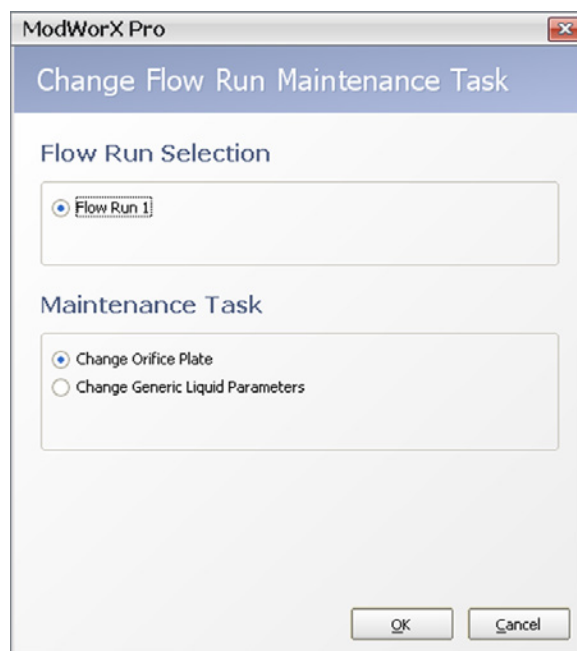

Figure 9.15
1. If Change Generic Liquid Parameters is not displayed in the Maintenance Task field at the top of the Maintain Flow Run screen, click on **Change Task**. The Change Flow Run Maintenance Task dialog will appear (Figure 9.15, page 136).